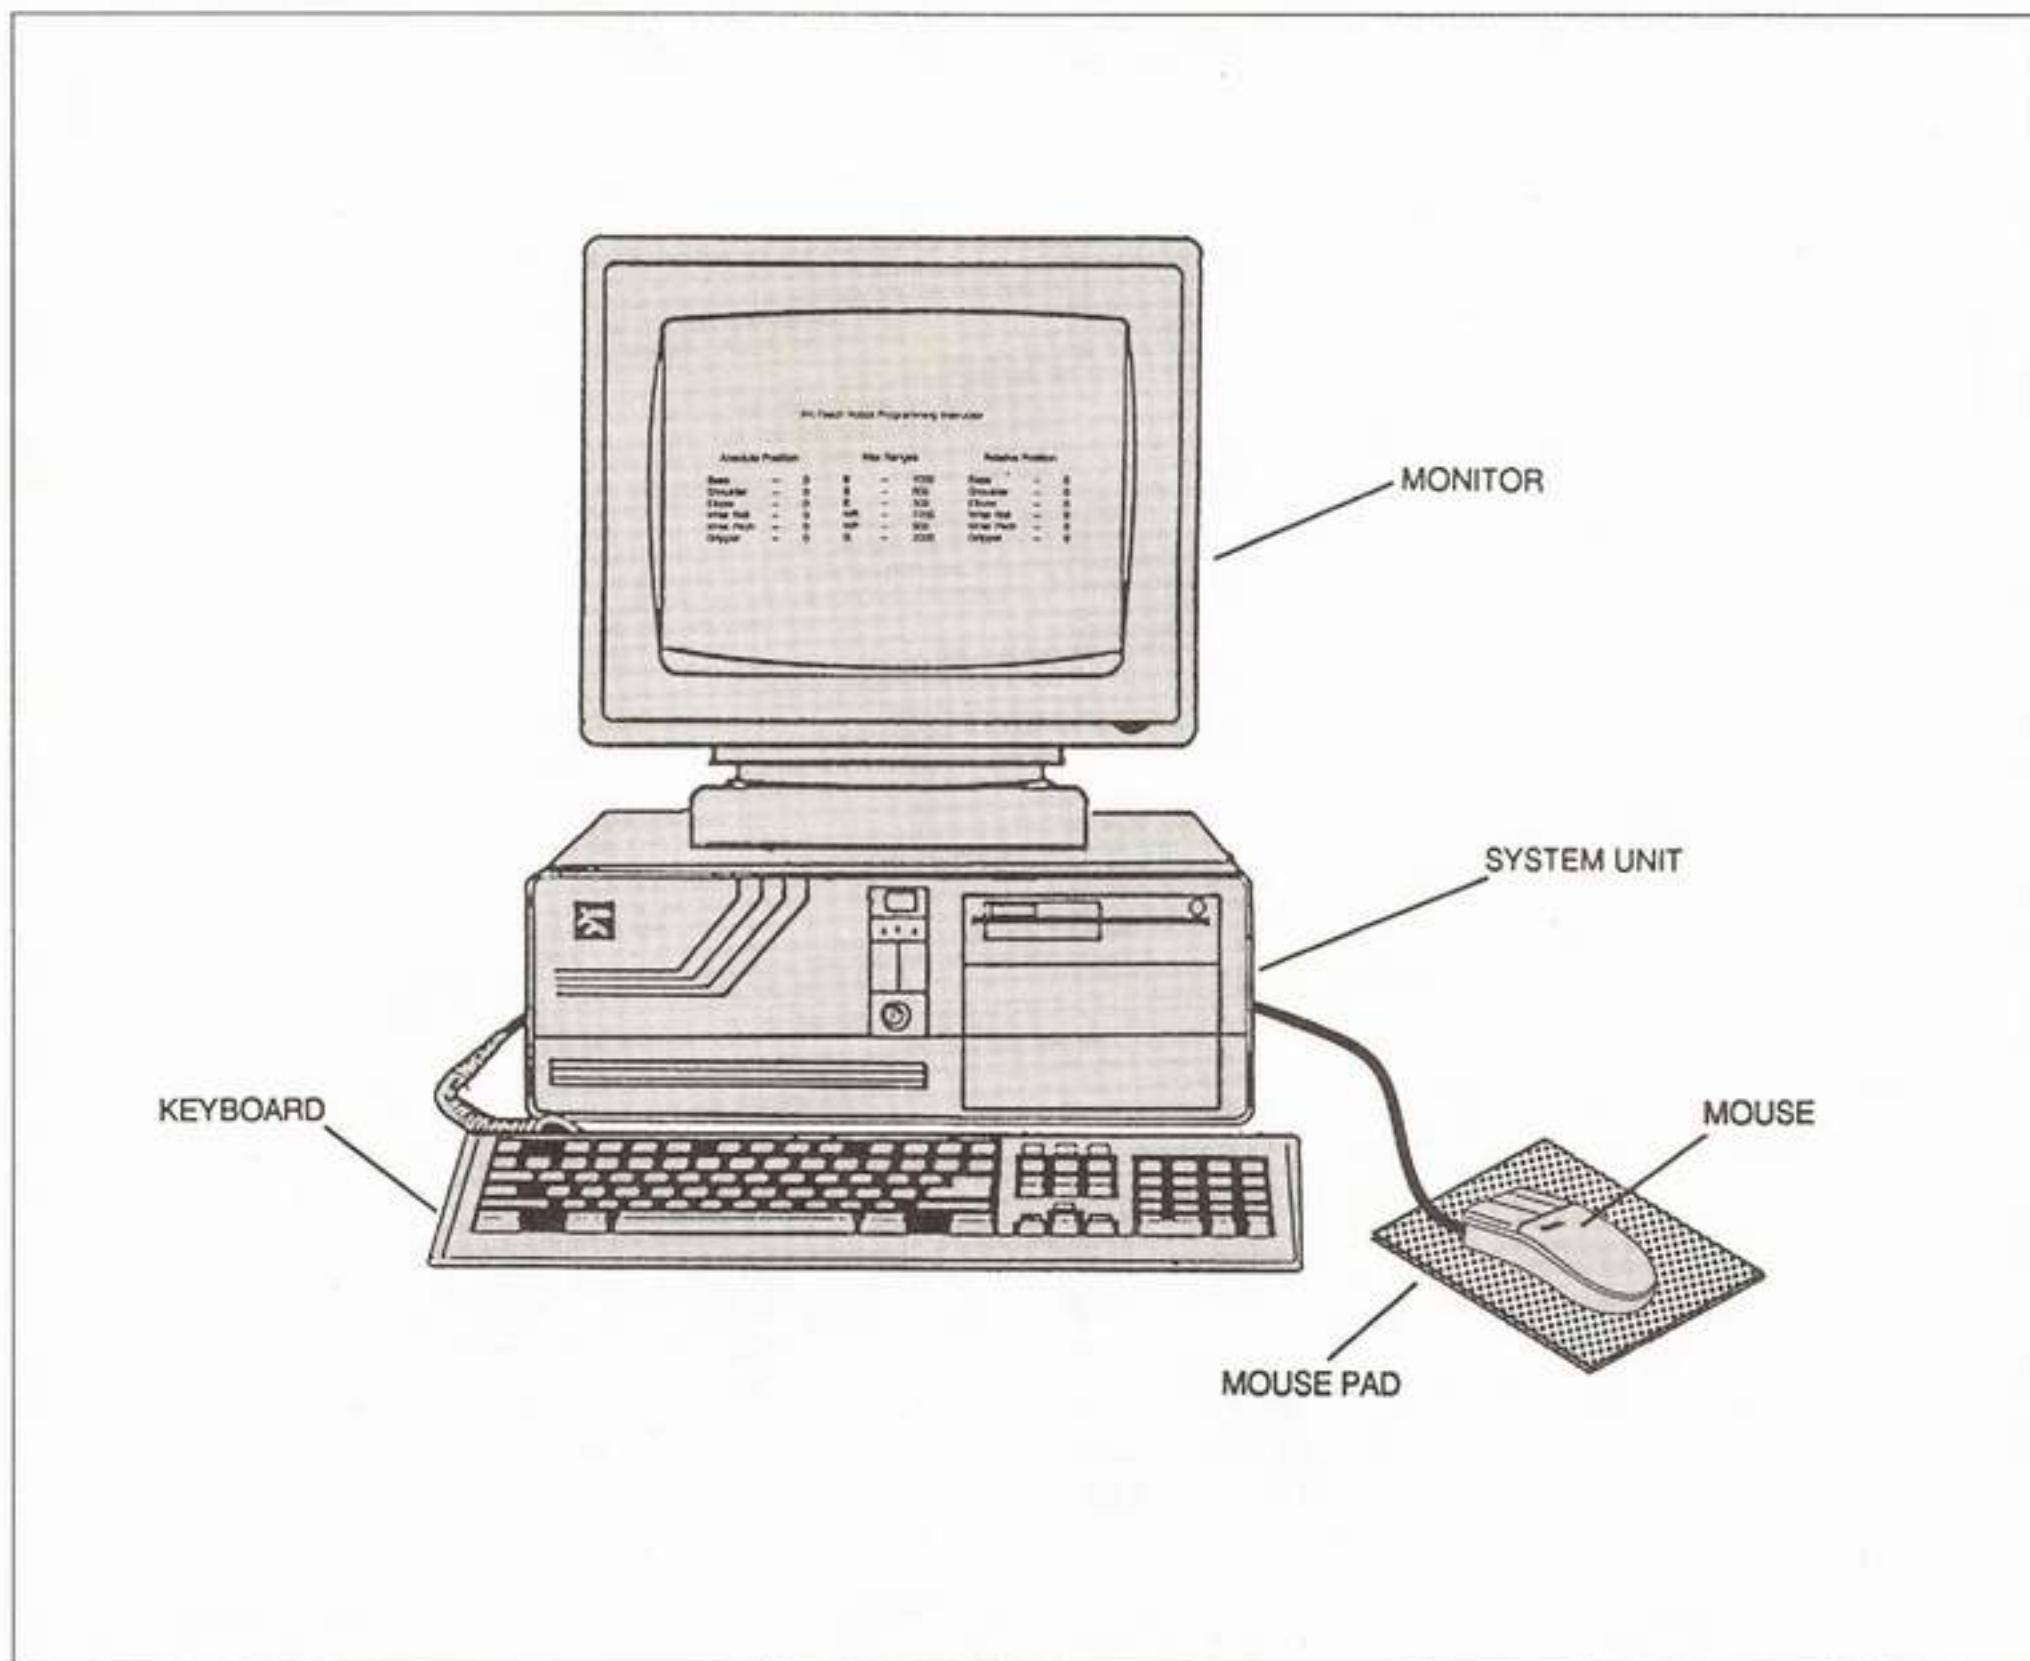

Fig. 11: The Mouse Installed
- _____ m. Place the mouse on the pad (or other suitable surface) where its operation will feel natural and comfortable, as shown in Fig. 11.